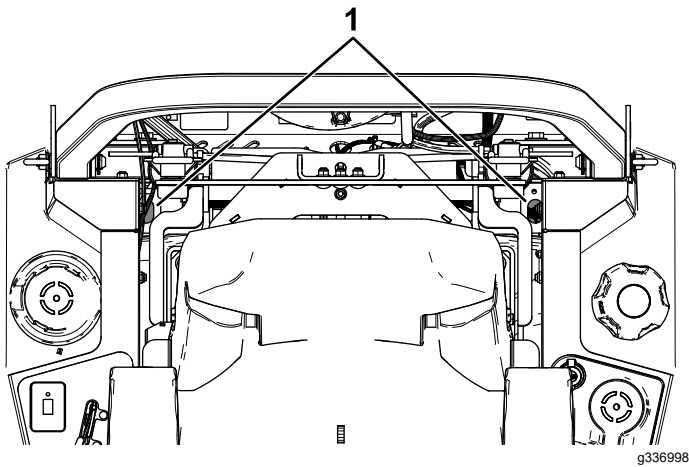

Figure 84
- **For ZT 4400 Hydros**, use an extension and 7/16-inch socket, access the vent plug from the top of the machine through the holes near the roll-bar mounts (Figure 84).